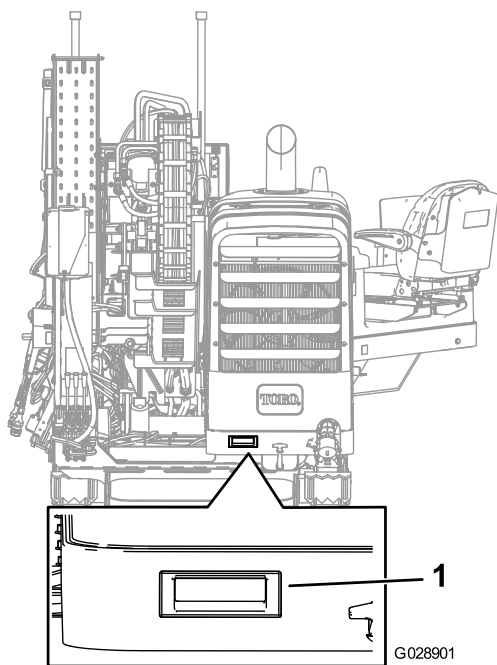

Figure 61
3. Lift up the handle as shown in Figure 61.